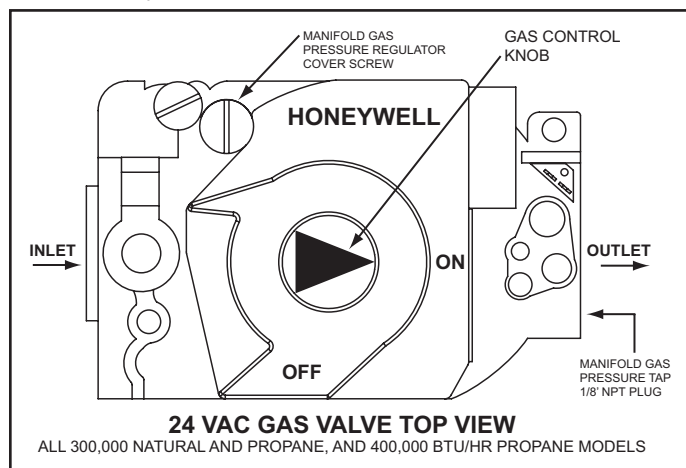
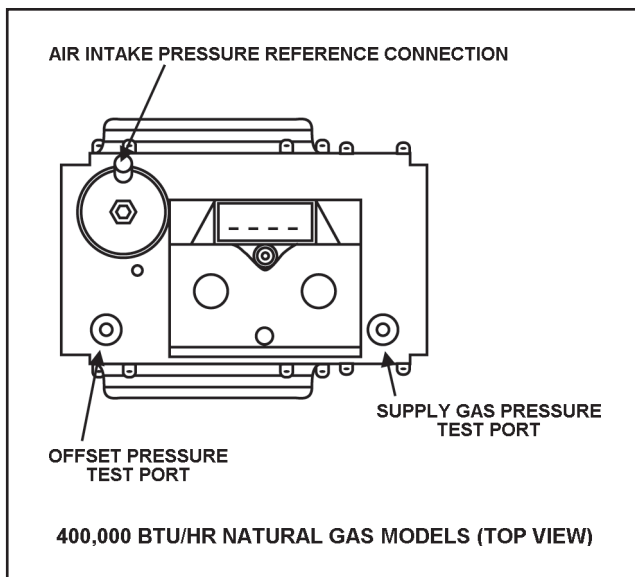

Figure 56
Figure 57
4. Push in the gas control knob slightly and turn to the "off" position, see Figure 56 on page 50.
5. Wait five (5) minutes for any residual gas to clear.
6. Connect one manometer (higher range) to an available test port on the supply gas line at the water heater. There is a 1/8" NPT Tee fitting and pipe nipple installed for the Low Gas Pressure switch on the inlet side of the 24 VAC Gas Valve with a 1/8" NPT plug for this purpose. For AJWSH130 400 Natural gas model, connect the manometer to the supply gas pressure test port, see Figure 57 on page 51.
7. Connect one manometer (lower range) to the manifold gas pressure tap at the outlet of the 24 VAC Gas Valve, see Figure 56 on page 50 for location.
1. Push in the gas control knob slightly and turn to the "on" position, see Figure 56 on page 50.
2. Remove the manifold gas pressure regulator cover screw, see Figure 56.
3. Push in the gas control knob slightly and turn to the "off" position, see Figure 56 on page 50.